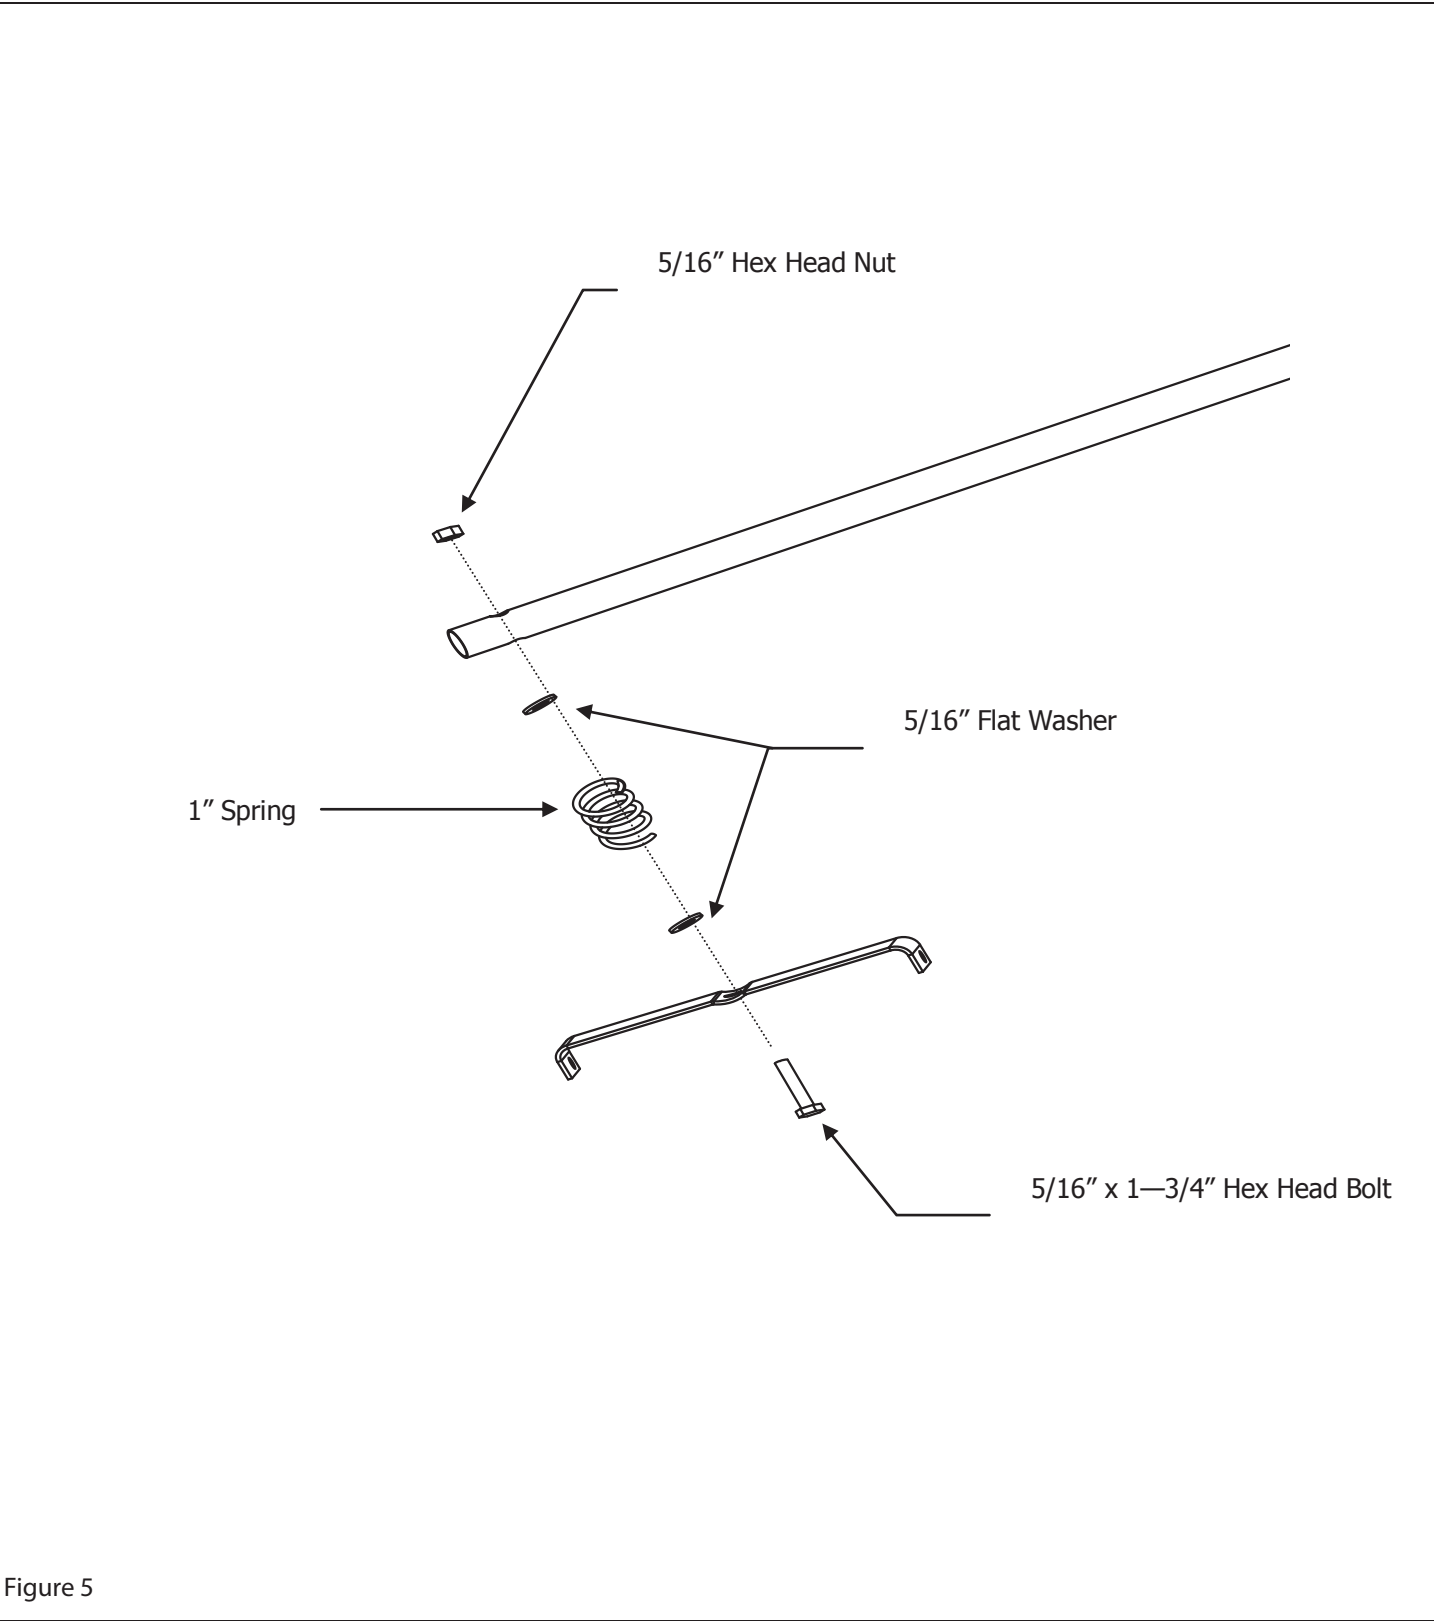

Figure 5
5. Assemble Row Marker to Row Marker Bracket using 5/16" x 1—3/4" Hex Head Bolt, 5/16" Flat Washer, Spring then another 5/16" Flat Washer and a 5/16" Lock Nut. Do not fully tighten hardware. Allow Row Marker Tube to pivot from side to side. See Figure 5.